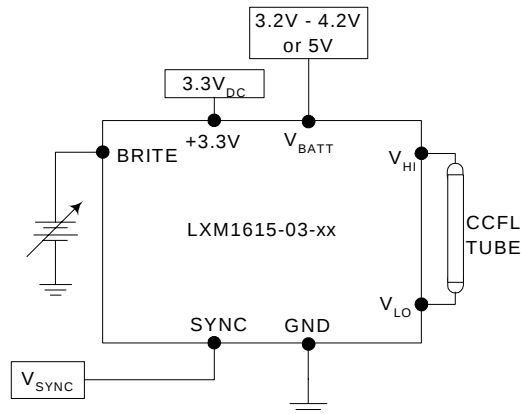

Figure 5 - Brightness Control
- The Brightness control may be a voltage output DAC, or other voltage source as shown in Figure 5. A 3.3V Logic Level PWM signal from a micro-controller may also be used as shown in Figure 5A.